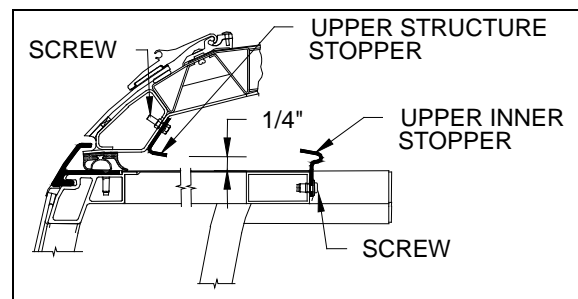
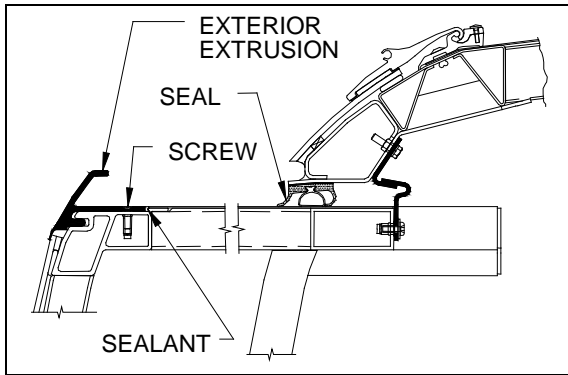

FIGURE 5 : UPPER STOPPERS
FIGURE 6 : EXTERIOR EXTRUSION
2. Adjust the upper structure stopper at 1/4" from the slide-out structure and tighten the screws (figure 5).
3. Adjust the slide-out inner upper stoppers so they rest on structure stopper when the slide-out is extended (figure 6), and tighten the screws.
The exterior extrusion function is to provide a leaning surface for the inflatable seal. When inflating, the seal leans against the extrusion and presses the roof structure upward until it rests on the inner side of the extrusion. This is to hold back the roof structure (figure 5 and figure 6).
6. Unscrew and remove the slide-out inner upper and side stoppers. Loosen the upper structure stopper retaining screws and move this stopper to the upward position to allow the slide-out to come out freely (figure 5).